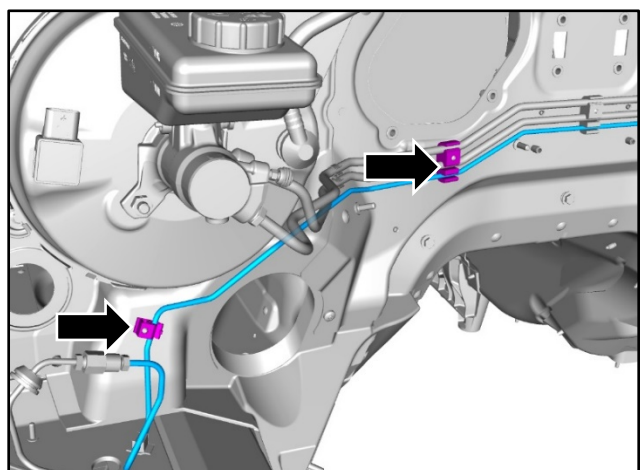

Figure 23
11. Check the security of the brake line and brake line mountings (refer to Figure 23).